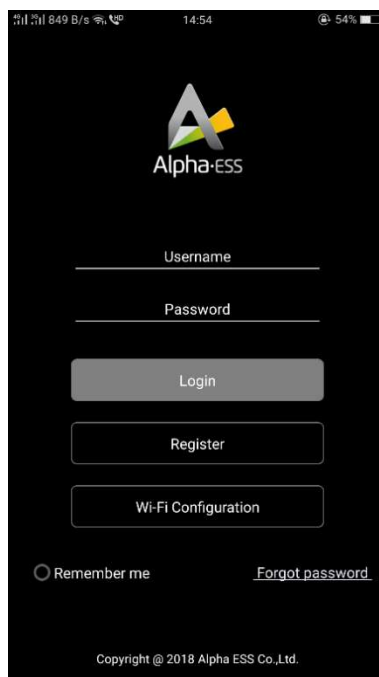

Figure 4.2 Network Setting
Step 1: Open Alpha ESS APP, click the “Wi-Fi configuration” button and enter the WiFi configuration interface as shown in Figure 4.2.